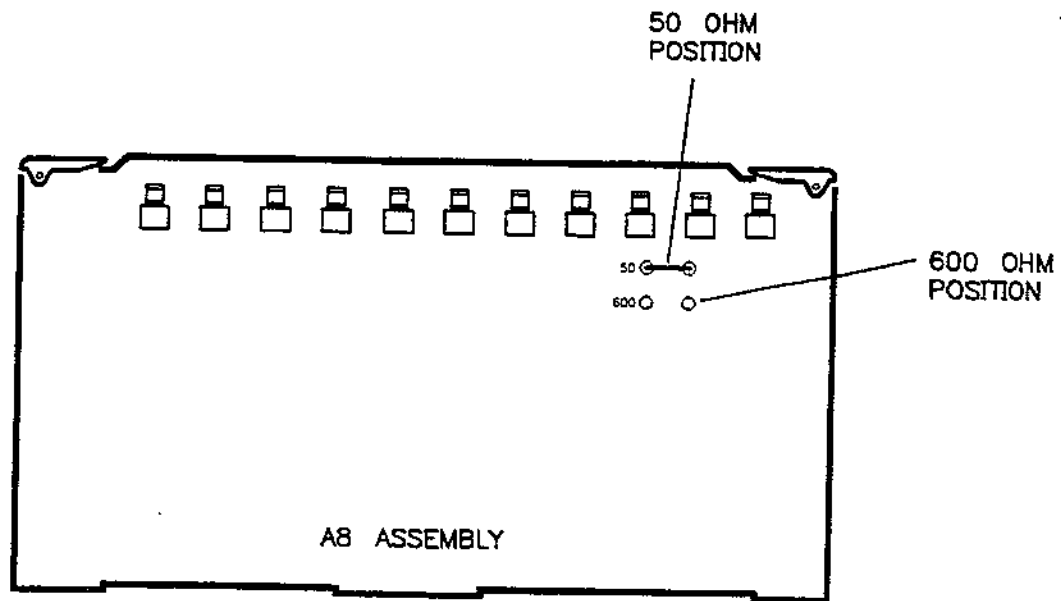

**Figure 3-37. FM Input Impedance Jumper Locations**
4. Locate the zero ohm resistor shown in Figure 3-37. The FM input impedance is factory-set to the 50 ohm position. To change it to 600 ohms, remove the resistor from the A11 assembly by unsoldering it. The FM input impedance can be reset to 50 ohms by soldering the resistor back into the A11 assembly.